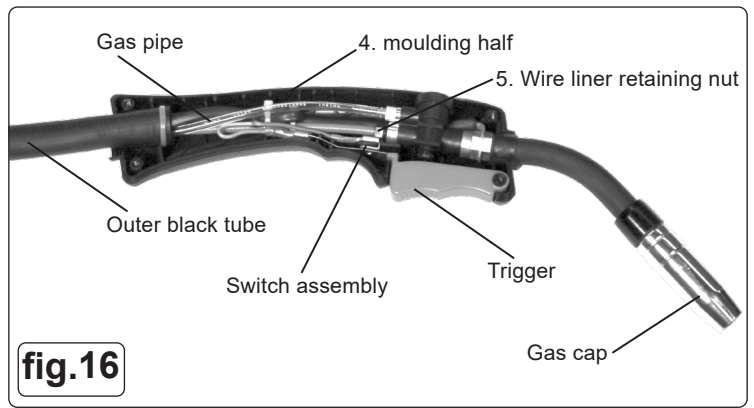

fig.16
10.6.3. Unscrew the four cross head screws from the torch handle fig.16.